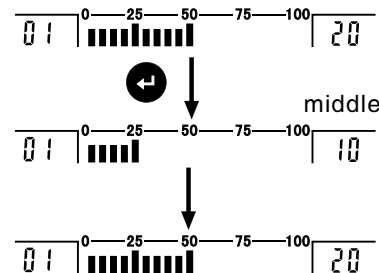

Figure 3-1-3 File upload process
- The sending process is dynamically displayed in the two sides of reading area and light pillar area. (As figure 3-1-3)